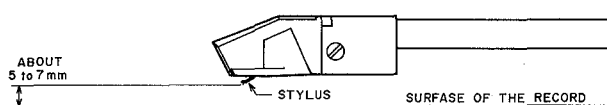

Fig. 6-2
- 1) Connect a Amplifier and Frequency counter as shown Fig. 6-2.